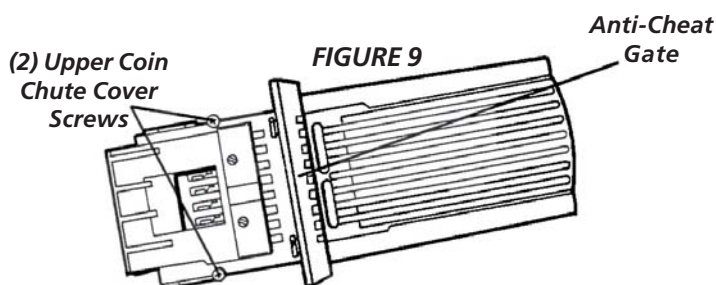

FIGURE 9
- Remove two screws that hold upper coin chute cover. Remove cover (see FIGURE 9).
Install slide into coin chute. Slide can only be pushed in if the anti-cheat gate in flange is pushed to the left. (see FIGURE 9).